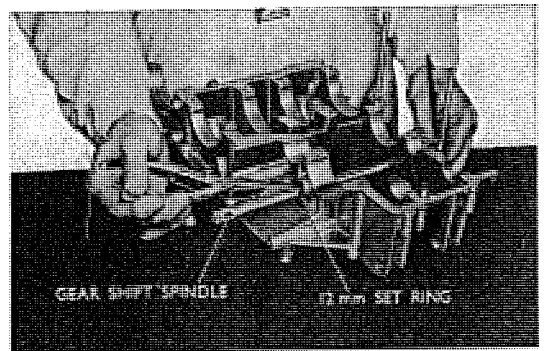

Fig. 3.126 Removing gear shift spindle
7. At the lower crankcase, the gear shift spindle together with the gear shift return spring and the gear shift spindle side limit are coupled. Hence, by removing the set ring with snap ring pliers, it can be removed toward the right side of the case. (Refer to Fig. 3.126)